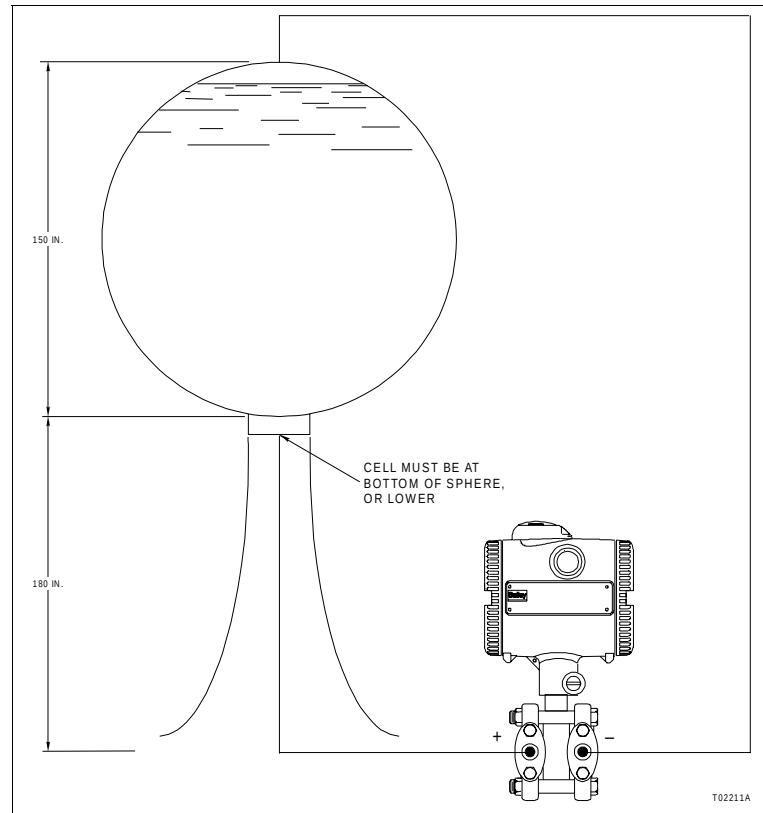

*Figure 2-5. Spherical Tank Volume Measurement
Figure 2-5 illustrates a spherical tank setup. This is a common industrial tank. To calculate the values entered into the transmitter via the communication device:
- Command 144** 2. The empty tank pressure is the primary variable (PV) lower value. If the location of the cell is at the bottom of the sphere, then the PV lower value is 0.00 kilopascals (0.00 inches of water). If the location of the cell is below the bottom of the sphere (Fig. 2-5), then offset the zero via *CALIBRATE PV LOWER VALUE*.
3. The full tank pressure is the PV upper value. If the location of the cell is at the bottom of the sphere, then the PV upper value is the product of the height of the tank and the specific gravity of the liquid. If the location of the cell is below the bottom of the sphere (Fig. 2-5), the PV upper value is the product of the specific gravity of the liquid and the height of the sphere, plus the PV lower value. Use *CALIBRATE PV UPPER VALUE* to set the PV upper value.
A Type PTHDDD pressure transmitter is installed as shown in Figure 2-5, and will be configured in the United States. The tank is filled with water (specific gravity = 1.0). The transmitter has an upper range limit of 360 in. H₂O. The cell is mounted 180 in. below the bottom of the sphere. The sphere itself is 150 in. in diameter. The empty volume is zero and the full volume is 7,650 gal. The compensating leg is a dry leg.